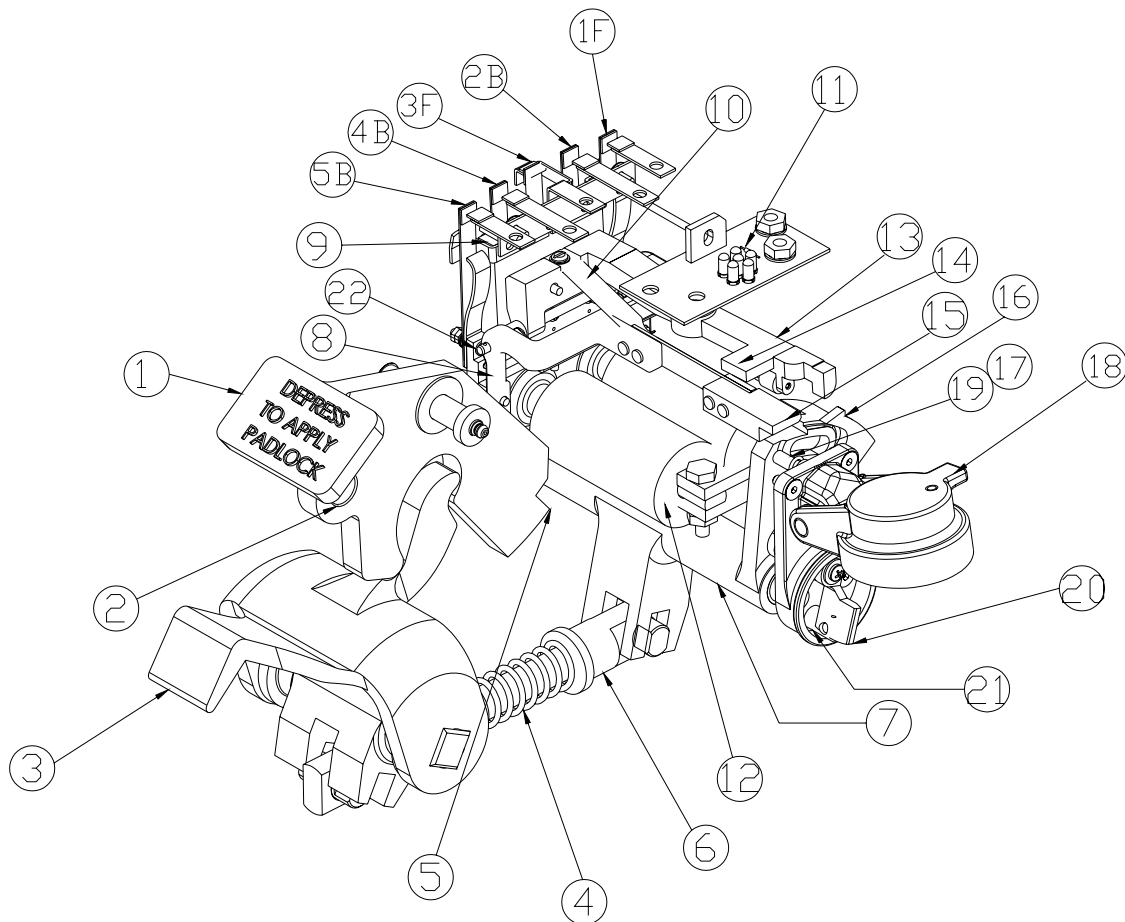

Figure 1-1. Operating Parts of Model 854 Switch Lock Shown Locked in Normal Position
Starting with the switch locked in its normal position, the following describes, step by step, the operation of the lock mechanism. The references to the various parts are shown in Figure 1-1.
Referring to Figure 1-1, lubricate pin 22 occasionally with a light oil, such as Mobil Aero. Other bearing points are permanently lubricated and require no attention.
- b. Back-closed with pressure of 8 to 10 oz. This high pressure is obtain by mechanically driven back stop. See Figure 1-1.